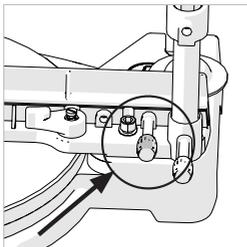

Fig. 5
- Loosen the thumbscrew. (**Fig. 5**)